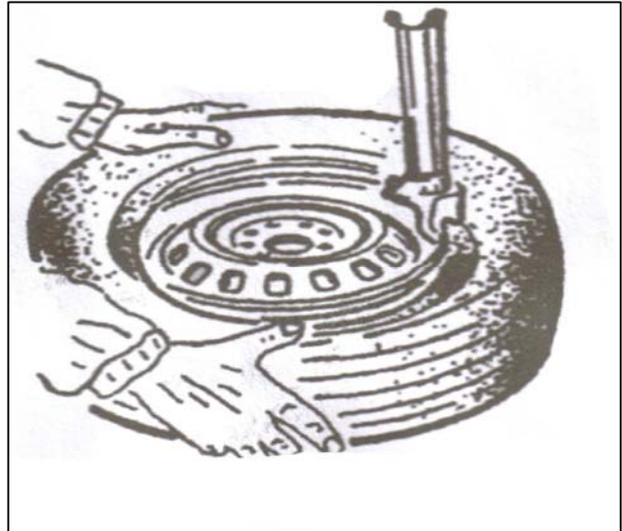

FIG 22
4.2.3 If there is tube, place it in the tire and plug the core. And assemble the lip according to the above mentioned step (FIG22). In the process of clamping the rim, do not reach your hands in between the rim and the claw to avoid the damage to the personnel.
When inflating the tire, please be carefully and series obey the operation process. Check the air route to see if the air connection is OK. This machine is equipped with an inflation gauge for monitoring the inflation of the tire and the inflation pressure (FIG22) .